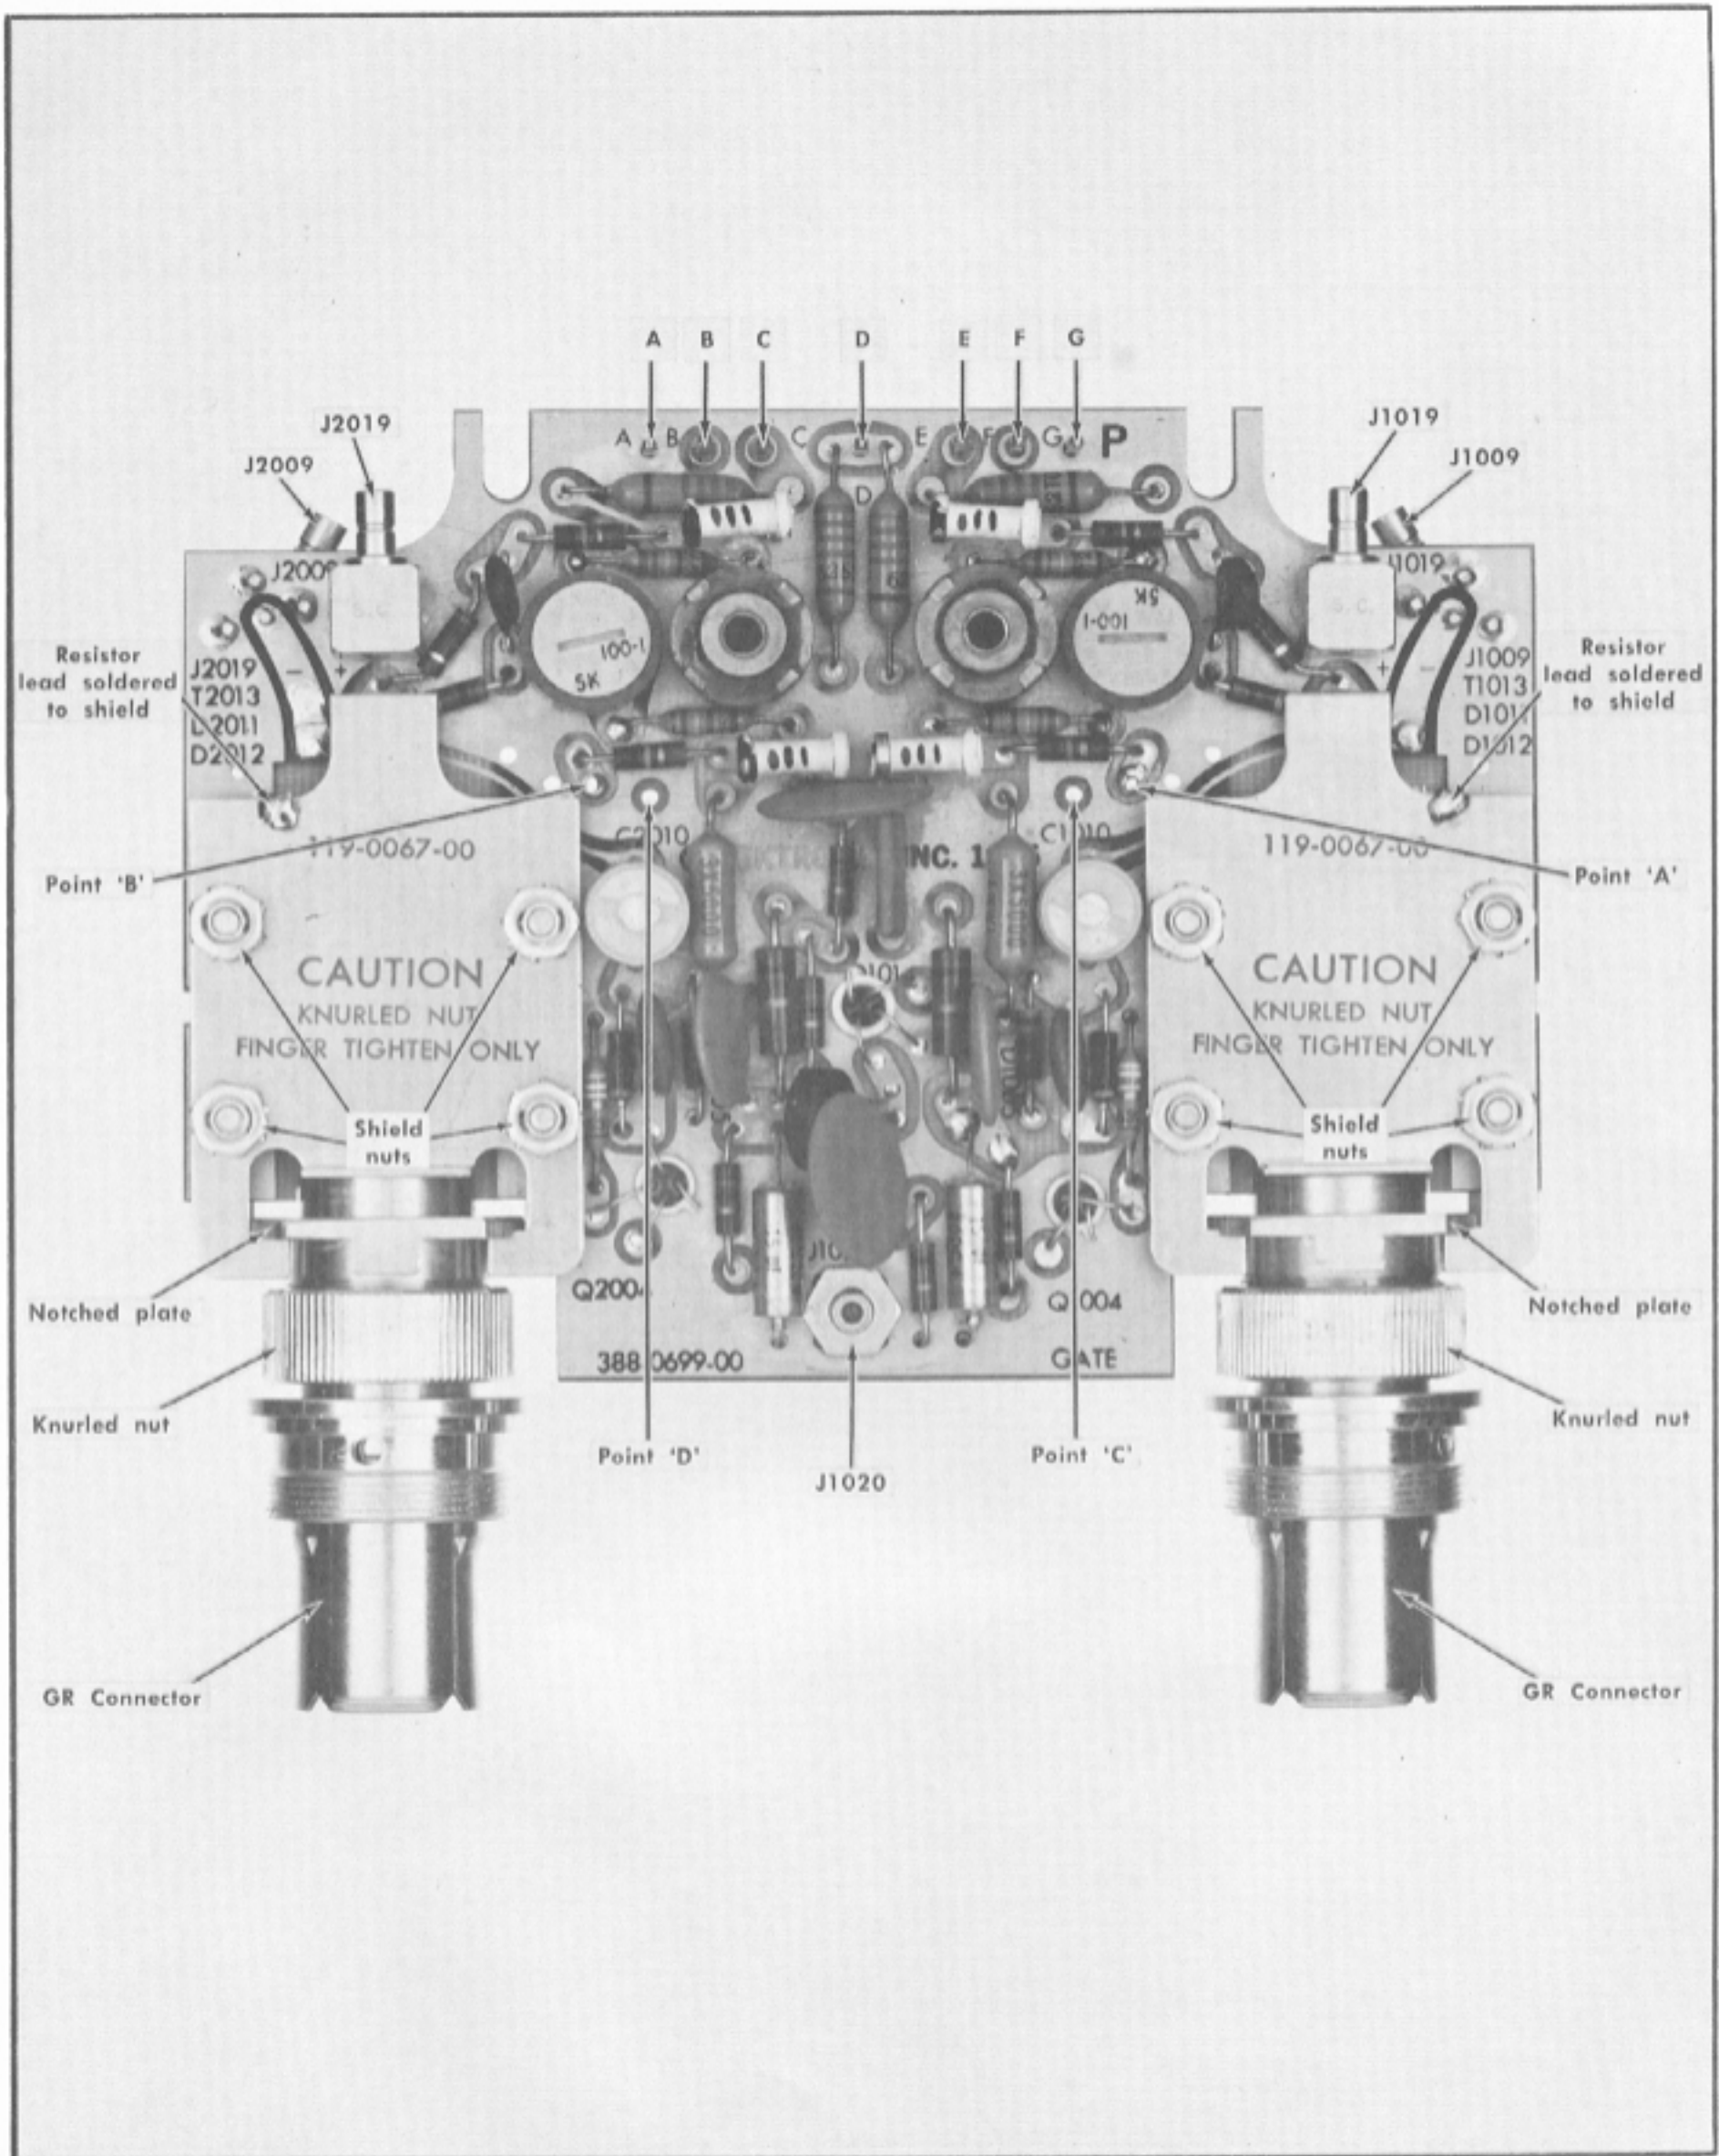

Fig. 4-7. Location of parts on Sampler Gate Board.
(1) Remove the sampling bridge diodes to prevent them from damage due to surges when unsoldering leads.
(2) Remove the seven leads connected to terminals marked A, B, C, D, E, F, and G at the rear of the board (Fig. 4-7). Note the position of each lead.
(3) Remove the cable connectors from jacks J1009, J1019, J2009, J2019 and J1020 (Fig. 4-7).
(4) Very carefully unsolder the two leads indicated as points A and B in Fig. 4-7. Lift and straighten the ends of these leads.
(5) Remove the two 12 sided nuts which secure the GR connectors to the front panel, then remove the two bolts at the rear of the board.
(6) Lift the rear edge of the board and slide it toward the back of the instrument while lifting. Be careful that the two leads previously unsoldered do not hang up as the board is pulled away.
(7) Lift the board free of the chassis.
(1) Unsolder the leads attached to the shields (Fig 4-7). These leads should be unsoldered with a minimum of bending or twisting. They are attached through the $150\ \Omega$ resistors to the $5\ \text{pF}$ capacitors, which are extremely fragile.
(2) Loosen, but do not remove, the four nuts holding the shield.
(3) Loosen the knurled nut enough to free the notched plate.
(4) Rotate the notched plate 90° and slide the Input Connector assembly away from the circuit board.
(5) Hold the bolt heads into the assembly while removing the four nuts.
(6) Lift off the top shield, keeping the assembly upright so that the spacers do not fall out.
(7) Remove the four spacers.
(8) Ease out the four bolts, lower shield and four bottom spacers as a unit.
- (6) Rotate the notched plate (Fig. 4-7) until the notches mate with the fingers on the shield.
- (7) Tighten the knurled nuts finger-tight only, being sure that the shields make contact with the outer coaxial conductor.
- (8) Holding the circuit board in one hand, push the GR connector assembly gently on to the board until the shield and connector assembly are properly positioned together.
- (9) Tighten the nuts on the shield.
- (1) Remove the two wires protruding through the 1/2 inch holes in the chassis. Replace these leads with 3 inch length of No. 22 tinned strapping wire.
- (2) Start the ends of the protruding strapping wires through the holes marked points C and D on Fig. 4-7.
- (3) Enter the GR connectors through the front panel holes and slide the assembly forward, being careful not to distort the 3 inch wire leads. Place bolts in the rear mounting holes and turn down, but do not tighten them at this time.
- (4) Place the 12 sided nuts over the GR connectors on the front panel and tighten them.
- (5) Tighten the rear mounting bolts. Bend protruding wire leads over to reach points marked A and B on Fig. 4-7, and insert the leads through the A and B holes. Trim leads so that only enough wire end remains to reach through the board.
- (6) Solder the wires in place.
- (7) Replace Subminax connectors to the five jacks, and replace the seven connectors to pins A, B, C, D, E, F, and G.